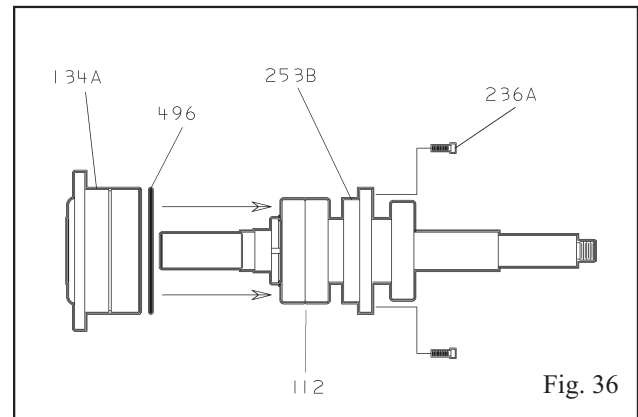

Fig. 36
1. After heating, install radial bearing (409) onto shaft (122) ensuring spacing ring is placed between shaft shoulder and inner race (Fig. 36).